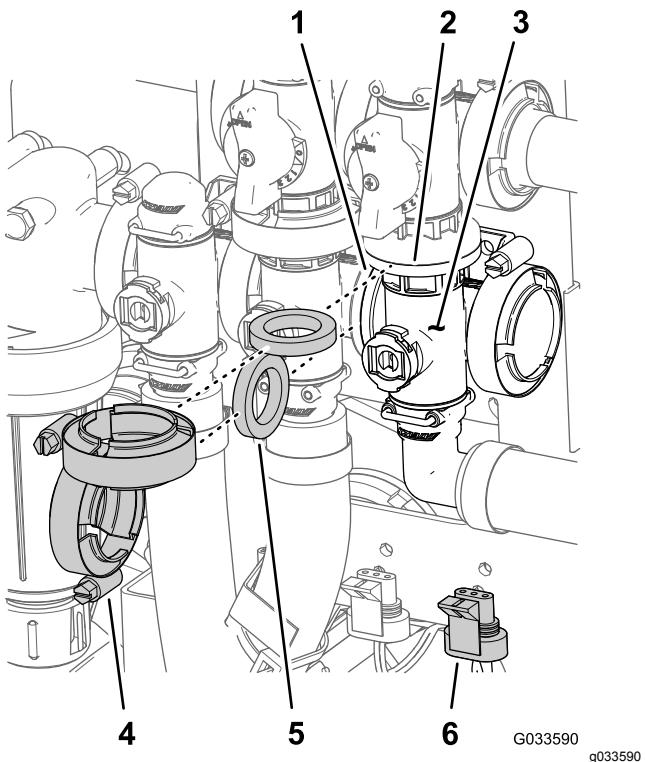

Figure 114
1. Align the flange of the master-boom-valve manifold, a gasket, and the flange of the master-boom bypass valve (Figure 114).
2. Assemble the master-boom valve manifold, gasket, and master-boom bypass valve with a flange clamp tightened hand tight (Figure 114).
3. Align the flange of the master-boom-valve manifold, a gasket, and the agitation-valve manifold (Figure 114).
4. Assemble the master-boom-valve manifold, gasket, and agitation-valve manifold with a flange clamp and tighten by hand (Figure 114).
7. Assemble the agitation valve to the valve mount with the flanged-head bolt and flanged locknut (Figure 114) that you removed in step 3 of Removing the Master Boom Manifold Valve \(page 75\) and torque the nut and bolt to 10 to 12 N·m (90 to 110 in-lb).